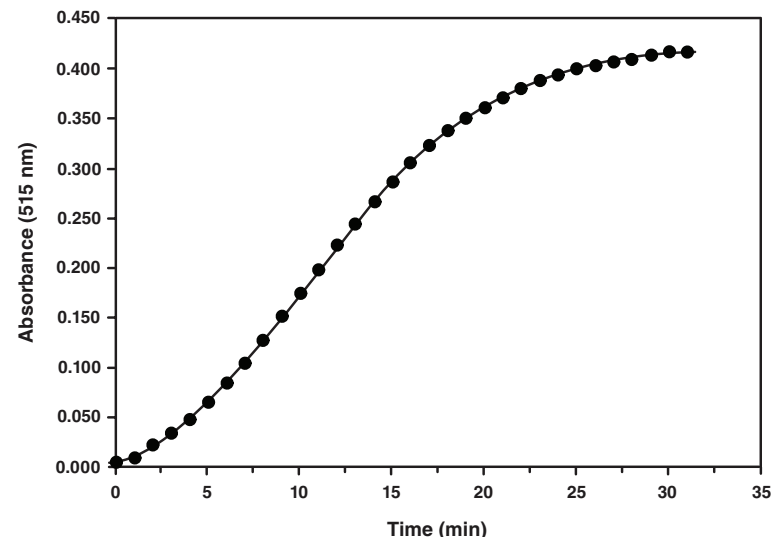

Figure 3. Human lysine specific histone methyltransferase SET7/9 assayed with 20 μM TAF-10 as the acceptor substrate.
This assay is suitable for use with all purified SAM-dependent methyltransferases. It is necessary to titrate each enzyme/substrate system in the assay to determine optimal conditions. An example of human lysine specific histone methyltransferase, SET7/9, assayed with 20 µM of the acceptor substrate TAF-10, is shown in **Figure 3** on page 15.⁴ Avoid the use of reducing agents (including DTT, β-mercaptoethanol, and TCEP) and metal chelators, such as EDTA and EGTA, as these have an inhibitory effect on the reaction. If these reagents are present, dialysis against 0.1 M Tris-HCl, pH 8.0, is recommended.
- a) Plot the absorbance values as a function of time to obtain the slope (rate) of the linear portion of the curve (an example of human lysine specific histone methyltransferase, SET7/9, assayed with 20 μM of the acceptor substrate TAF-10, is shown in **Figure 3** on page 15)